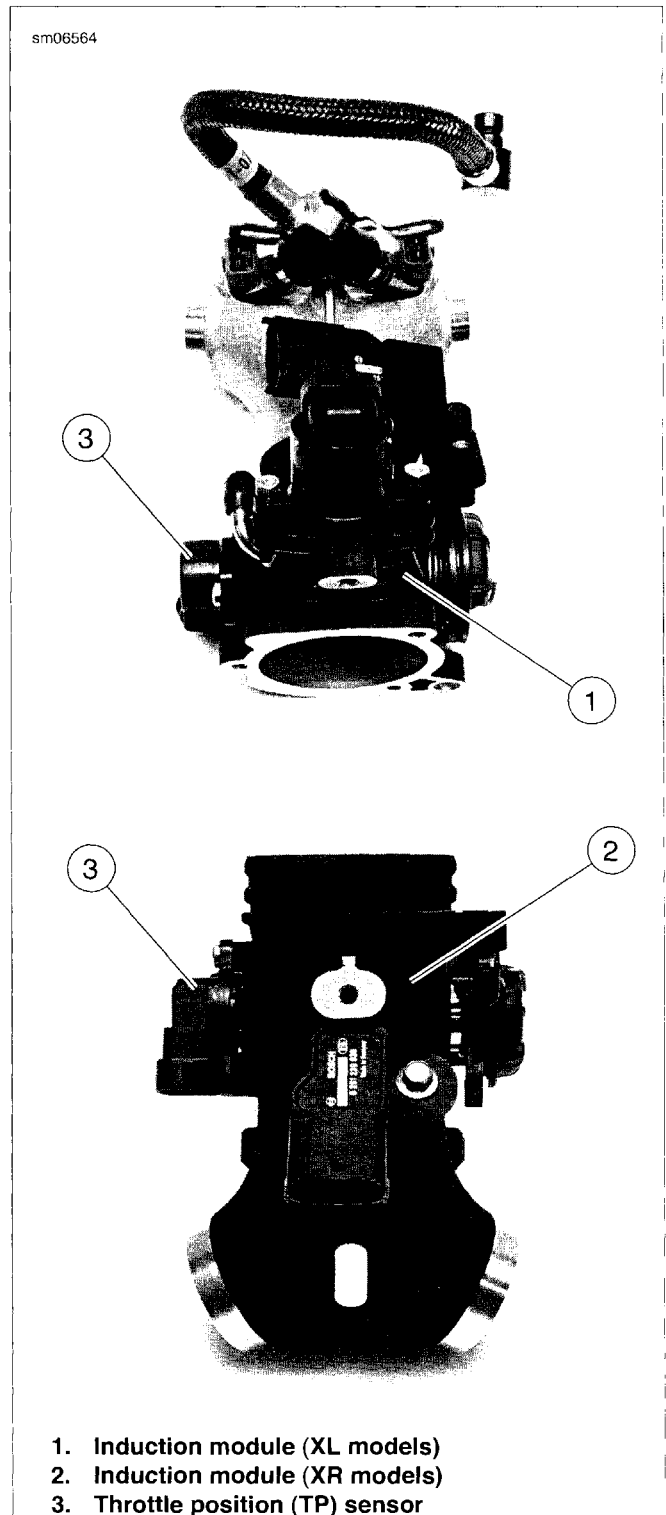

Figure 4-26. Throttle Position (TP) Sensor Location (Induction Module Removed From Vehicle for Clarity)
See Figure 4-26. The Throttle Position (TP) sensor is located on the side of the induction module and monitors the physical position of the throttle shaft.